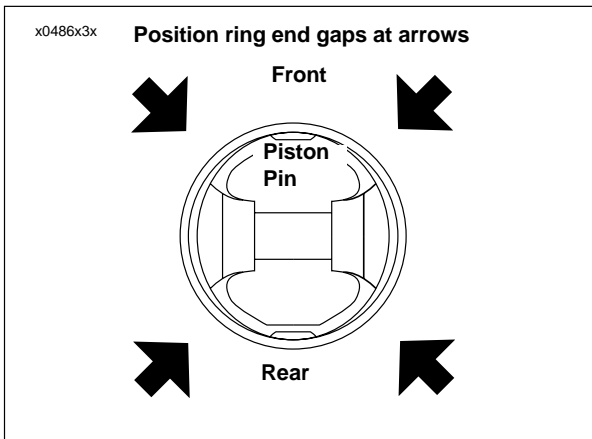

**Figure 3-93. Installing Piston Rings Transmission Shaft Retaining Ring Pliers (Part No. J-5586)**
- See Figure 3-93. Apply engine oil to piston grooves. Use TRANSMISSION SHAFT RETAINING RING PLIERS (Part No. J-5586) to slip compression rings over piston into their respective grooves. Be extremely careful not to over expand, twist rings or damage piston surface when installing rings.